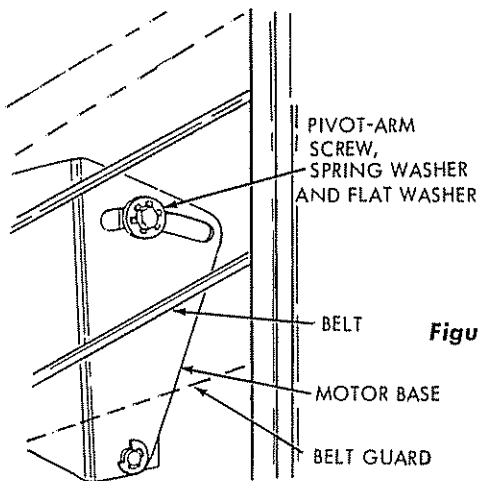

Figure 46
This adjustment (figure 46) is necessary to prevent motor vibration (screw too loose) and to permit the motor mount to maintain correct belt tension whenever the saw blade is raised or lowered with the elevation hand-wheel (screw too tight if belt tension is not maintained). When either of these conditions are evident, adjust the screw as follows:
- a. Tightening or loosening the pivot arm screw (figure 46) should produce conditions described above. The head of pivot arm screw (figure 46) applies force on a spring washer which bears against a flat steel washer and in turn permits the motor base to slide inward or outward with proper tension.
- (1) Table trunnions.
- (2) Lift screw and gear rack of assembled arbor.
- (3) Tilt screw block, tilt screw threads and tilt nut.
- (4) Pivot pin and saw arbor housing guide.
- (5) Clamp screw.
- c. All points where a slip fit is necessary for adjustment purposes should be oiled occasionally. (Pivot arm screw, for example, figure 46.)